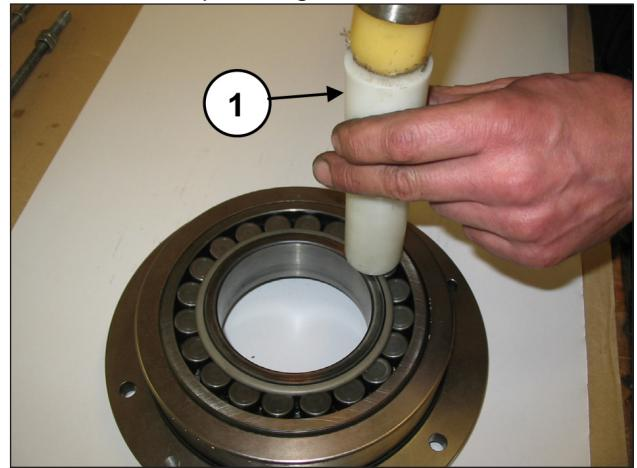

Fig. 25
Separate the bearing support cover from the bearing, using an extractor hammer (pos. ①, Fig. 25).